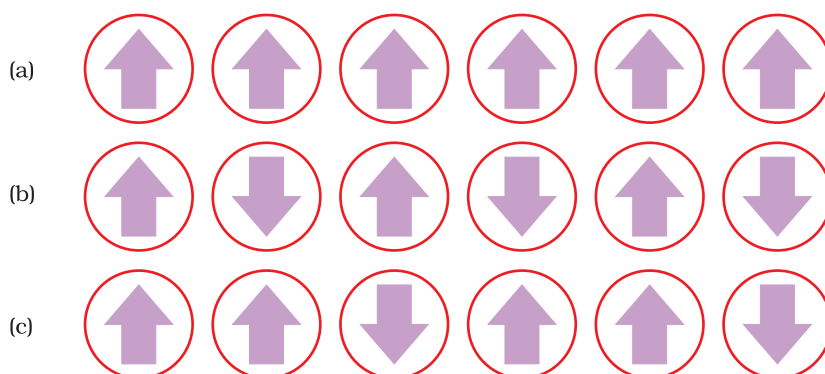

Fig 1.36: Schematic alignment of magnetic moments in (a) ferromagnetic (b) antiferromagnetic and (c) ferrimagnetic.
- (iii) *Ferromagnetism*: A few substances like iron, cobalt, nickel, gadolinium and CrO_2 are attracted very strongly by a magnetic field. Such substances are called ferromagnetic substances. Besides strong attractions, these substances can be permanently magnetised. In solid state, the metal ions of ferromagnetic substances are grouped together into small regions called *domains*. Thus, each domain acts as a tiny magnet. In an unmagnetised piece of a ferromagnetic substance the domains are randomly oriented and their magnetic moments get cancelled. When the substance is placed in a magnetic field all the domains get oriented in the direction of the magnetic field (Fig. 1.36 a) and a strong magnetic effect is produced. This ordering of domains persists even when the magnetic field is removed and the ferromagnetic substance becomes a permanent magnet.
- (iv) *Antiferromagnetism*: Substances like MnO showing antiferromagnetism have domain structure similar to ferromagnetic substance, but their domains are oppositely oriented and cancel out each other's magnetic moment (Fig. 1.36 b).